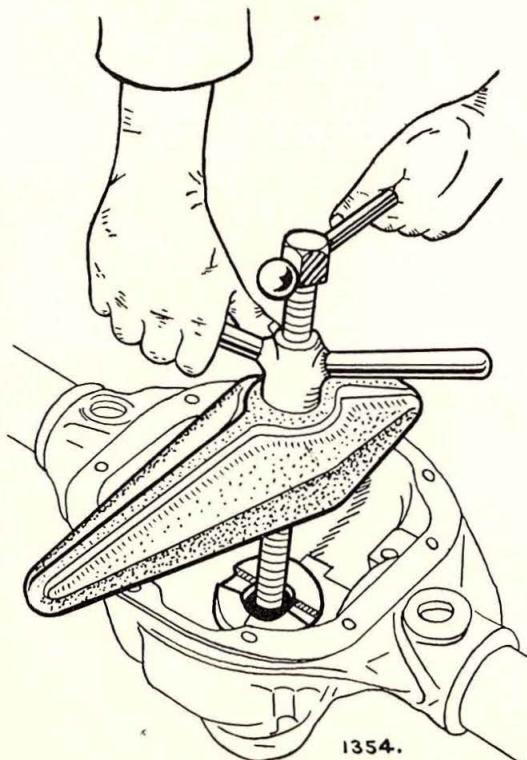

Fig. 8. Removal of the inner bearing cup.
- (1) Remove the pinion nut and washer.
- (2) Withdraw the universal joint companion flange with a suitable puller.
- (3) PRESS the pinion out of the outer bearing. It is important that the pinion should be pressed and not driven out to prevent damage to the outer bearing. The pinion, having been pressed from its outer bearing, may now be removed from the gear carrier housing. Note : Keep all shims intact.
- (4) Remove the pinion oil seal together with the oil slinger and outer bearing cone.
- (5) Examine the outer bearing for wear and, if replacement is required, extract the bearing cup, using Tool No. SL.12 shown in Fig. 8.
- (6) If the correct tool is not available, and the old bearing cup is to be scrapped, it is possible to drive out the cup, the shoulder locating the bearing being recessed to facilitate the operation.
- (6) Remove the pinion inner bearing cup, as shown in Fig. 8, using Tool No. SL.12, if the bearing requires replacement or adjustment of the pinion setting is to be undertaken. Take care of the shims fitted between the bearing cup and the housing abutment face.